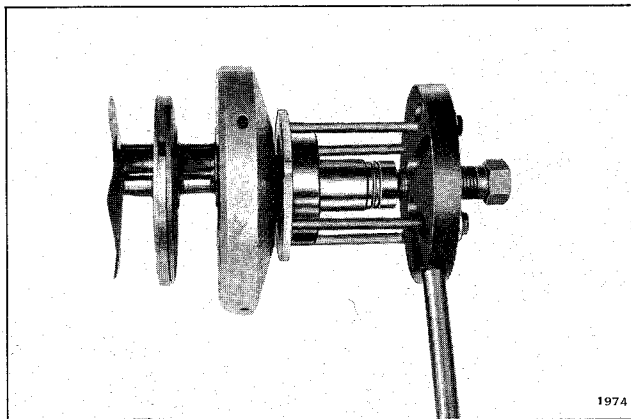

Figure 5-14. Pulling Lower Crankshaft Bearing
e. Inspect ball bearing at lower end of crankshaft and remove if damaged. This can be accomplished by using flywheel puller (Special Tool #378103) provided with four screws, 1/2-28 x 4" long, and threading the screws into the tapped holes in the bearing retainer. Screws are provided as part of adapter kit (Special Tool #378104). See Figure 5-14.